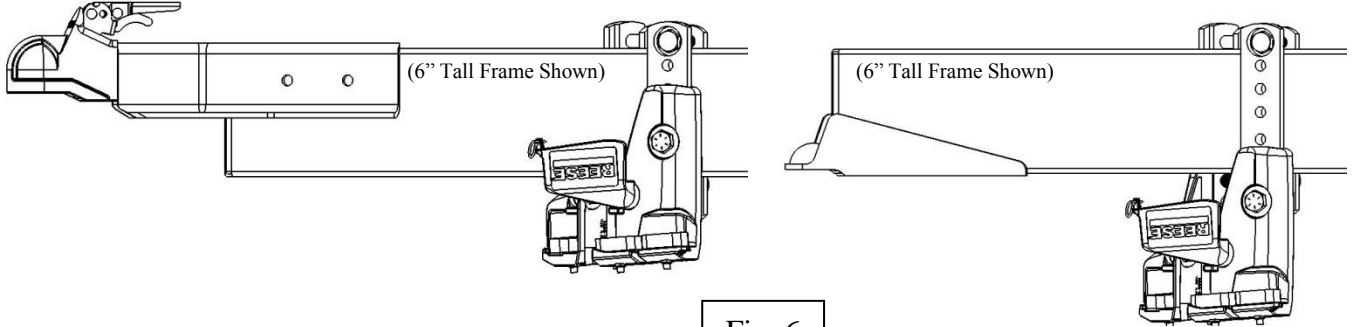

Fig. 6
9. Slide the **Adjustable Frame Bracket** onto the **T-Bar** to the corresponding height for top/bottom mounted coupler. For top mounted couplers, one threaded hole should be visible above the **Adjustable Frame Bracket**. For bottom mounted couplers, the **Adjustable Frame Bracket** mounting bolt should be fastened one bolt hole below the bottom frame bolt (See Fig. 6).
Slide to applicable location shown in Fig. 6.